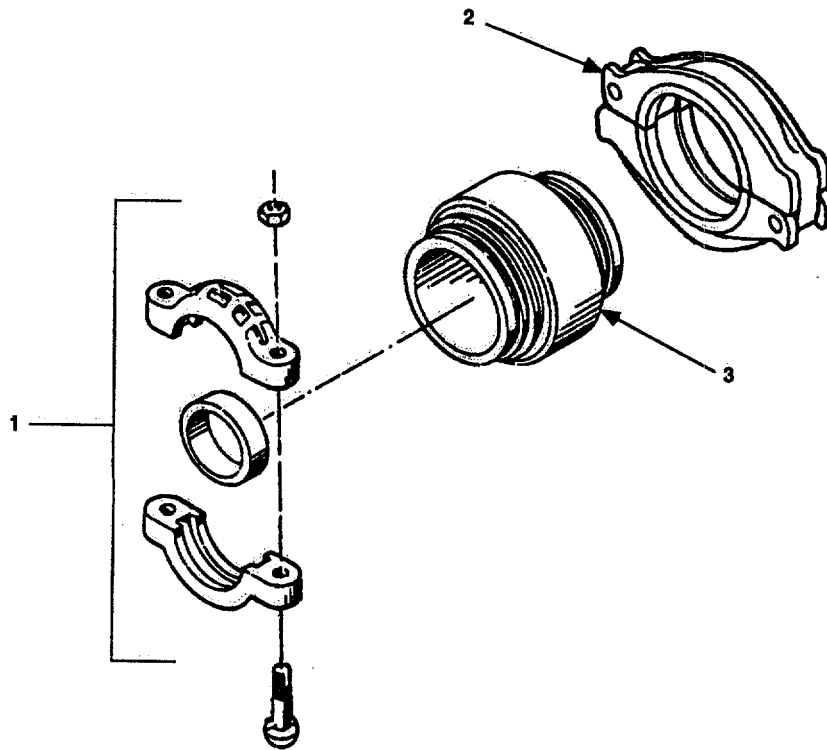

Figure 4-8. Swivel Joint Replacement.
- a. Remove 6 inch grooved pipe coupling clamp (Figure 4-8, 1).
- b. Remove grooved-end pipe quick disconnect coupling clamp (2).
- c. Remove swivel joint (3).
- a. Inspect swivel joint (3) for corrosion, cracks, holes, and damage.
- b. Replace damaged or defective swivel joint (3).